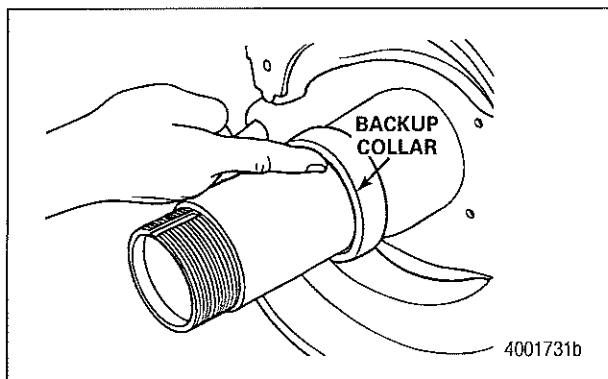

Figure 17
5. Use your finger to verify that the hub side of the axle backup collar is clear of debris. Use a clean rag and solvent to clean, as needed. Figure 17.